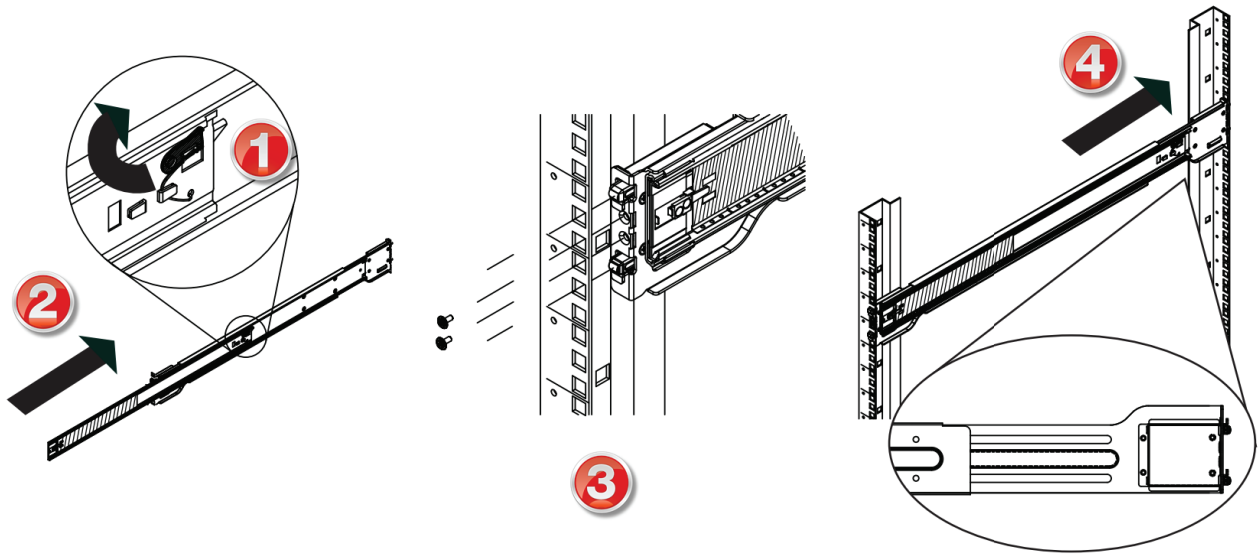

Figure 2-5: Install Outer Rails
Installing the Outer Rails, Figure 2-5.
6. Depress the locking tabs of both sides at the same time and push the chassis all the way into the rear of the rack, see Figure 2-5 step 1.